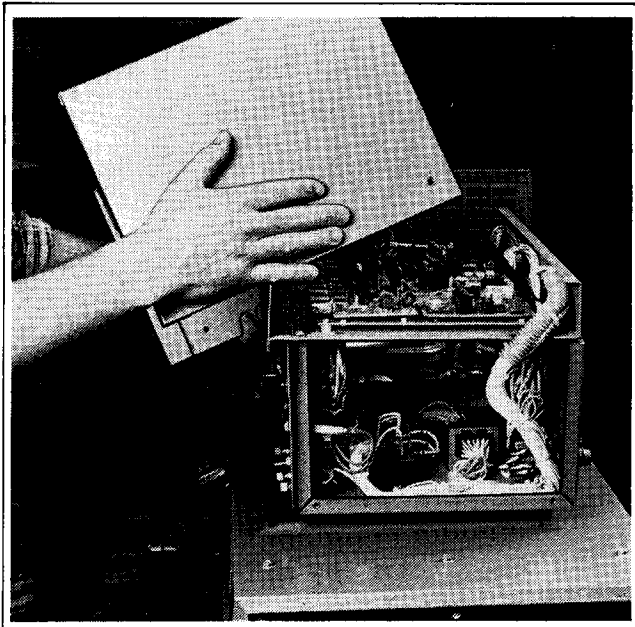

Figure 4-1. Controller Cover
1. Remove controller cover screws and lift away cover (Figure 4-1).